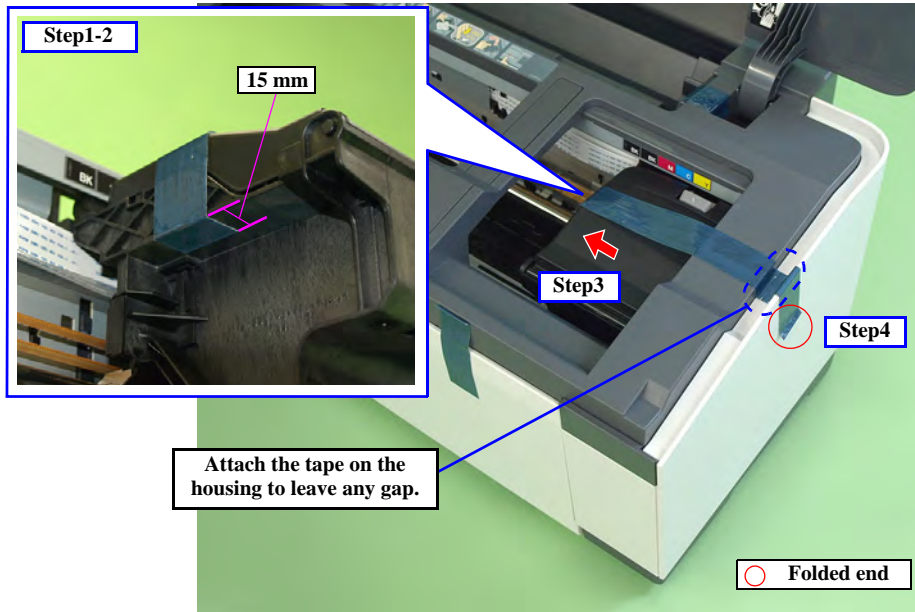

Figure 4-1. Securing the Carriage
1. Attach the unfolded end of the strong tape on the bottom left of the carriage as shown in Figure 4-1.
3. Move the carriage in the direction of the arrow (130 digit side) in Figure 4-1 until it touches the Carriage Lock.
4. Pull the tape toward the right side of the housing and attach it tightly along the shapes of the housing as shown in Figure 4-1 to secure the carriage.